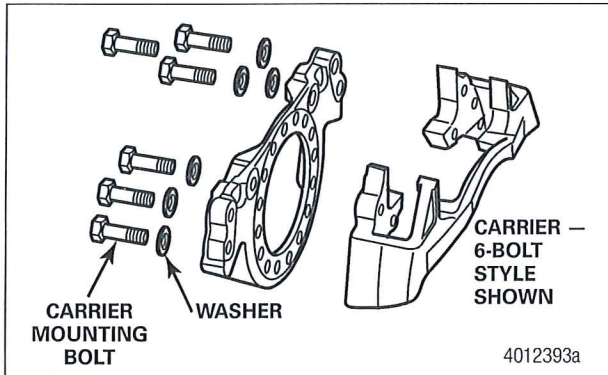

Figure 6
- If one (1) bolt is loose (hand tight) or missing: Use the appropriate kit to replace all of the mounting bolts with new bolts and washers. Proceed to Step 4.
- If more than one (1) bolt is loose (hand tight) or missing: Proceed to the "Caliper and Torque Plate Inspection" procedure in this publication.
- **For Meritor EX+ air disc brakes:** Use a 30 mm-size socket to tighten the carrier mounting bolts to 400 lb-ft (542 N•m). Use the special torque adapter, part number 3256B1354, where needed for access to the mounting bolts. When using the special torque adapter, use the settings shown in Table B for torque compensation. Figure 6.